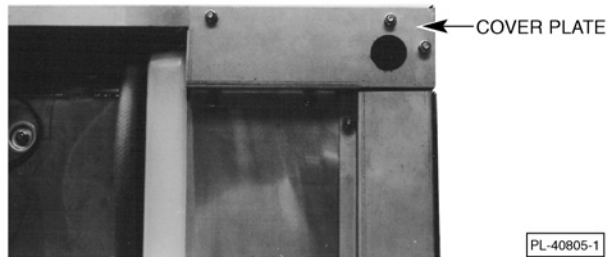

Fig. 1
1. Remove the cover plate at the upper right in the back of the machine (Fig. 1). A hole for 1" trade size conduit is supplied in the cover plate.
5. Reinstall the cover plate (three screws, Fig. 1).